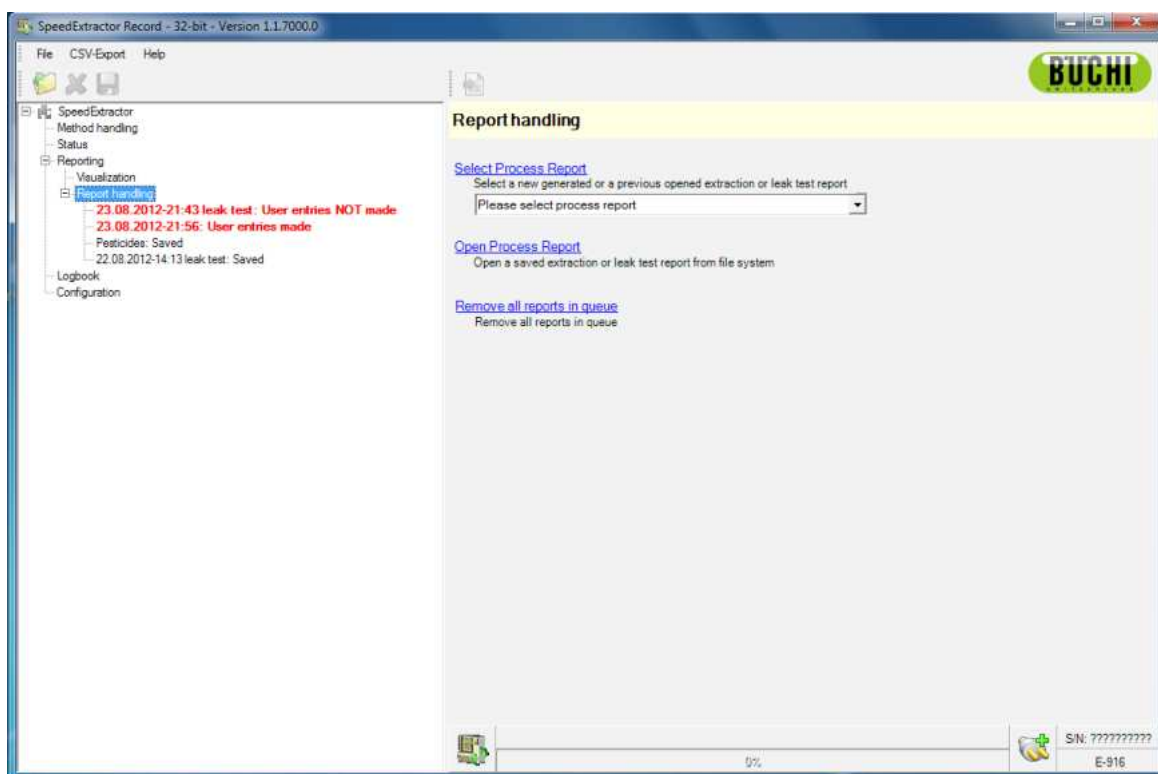

Fig. 6.6: 'Report handling' view
- Click on the red entry “user entries NOT made” (Fig. 6.6) and fill out the pop-up window ‘Extraction Report’ form (Fig. 6.7) or ‘Leak Test Report’ form, respectively.
- Click on the red entry “user entries made” (Fig. 6.6) and save the report to the file system by using the “save report” icon. For leak test reports, the system proposes the date and time as file name (e.g. 20120822 1413 leak test). For extraction reports, the title of the report is proposed.